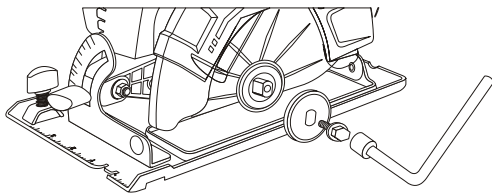

Figure 4
2. Place the socket end of the blade wrench on the blade screw. (Figure 4)